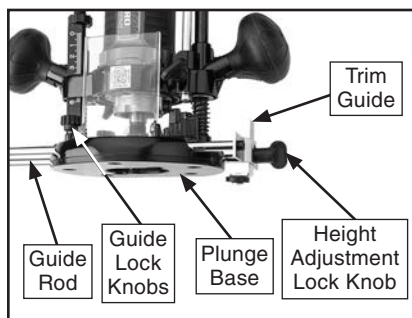

Figure 21. Curved trim guide components.
3. Loosen guide lock knobs and slide trim guide into plunge base, as shown in **Figure 21**.
4. Place router flat on workpiece, loosen height adjustment lock knob (see **Figure 21**), set guide height, and tighten knob to secure position.